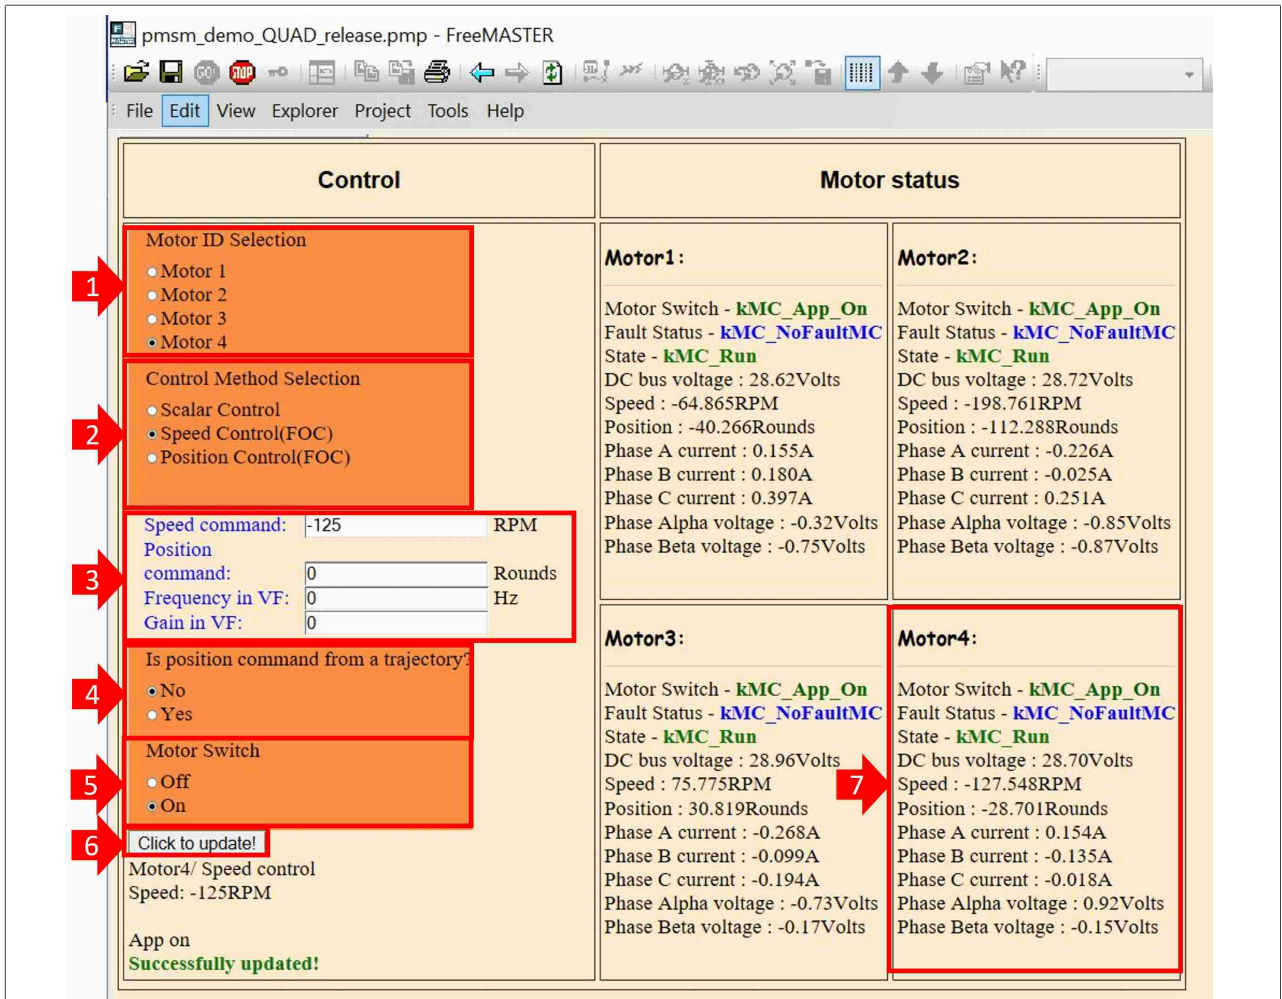

Figure 65. Send motor control commands to i.MX RT Industrial Drive Development Platform
3. You can now control the motors using the FreeMASTER GUI as shown in Figure 65: